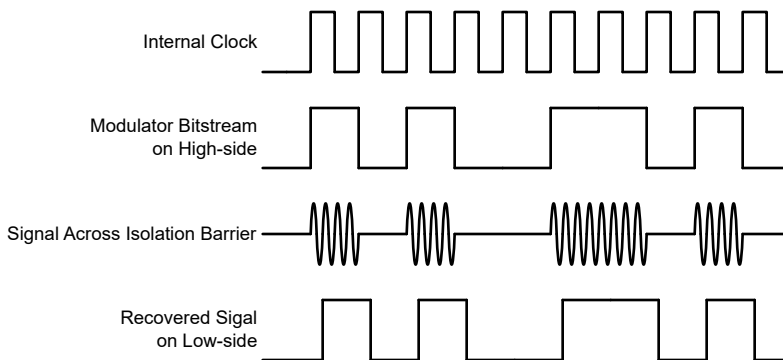

Figure 7-4. OOK-Based Modulation Scheme
As shown in Figure 7-4, the AMC0x03M0510 uses an on-off keying (OOK) modulation scheme to transmit the modulator output bitstream across the SiO₂-based isolation barrier. The transmit driver (TX) is illustrated in the Functional Block Diagram. TX transmits an internally generated, high-frequency carrier across the isolation barrier to represent a digital one. However, TX does not send a signal to represent a digital zero. The nominal frequency of the carrier used inside the AMC0x03M0510 is 480MHz.